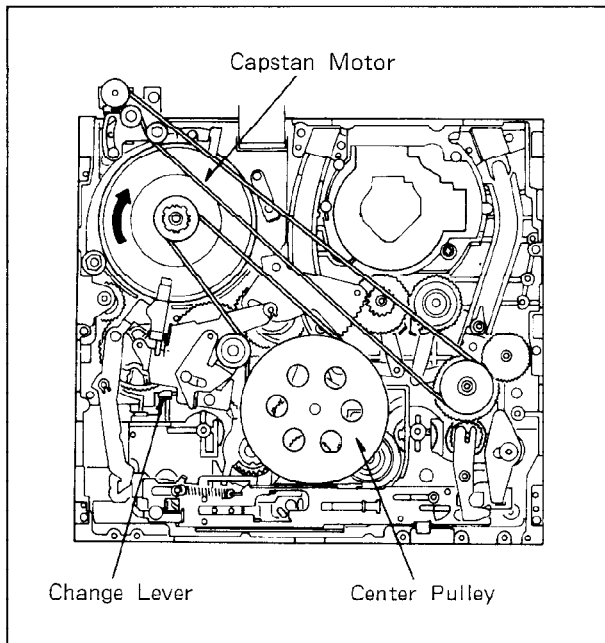

Fig. D12
Remove the 2 screws(V) and a screw(W). Slide the cassette holder unit for appearing 2 screws(X) by turning(clockwise) the Capstan Rotor Unit(located in the bottom side as shown in Fig.D12) and remove the 2 screws(X). Remove the wire cable from connector P1508 mounted on Take-up Photo Tr. C.B.A., then carefully pull out the Cassette Compartment.